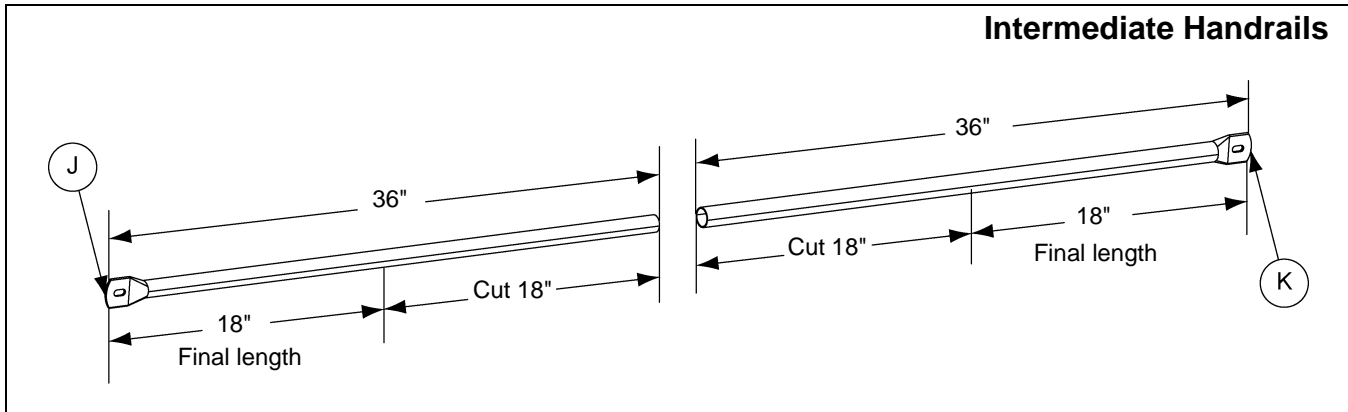

Figure 71
4. Assemble the intermediate handrails by sliding the small handrail into the larger handrail to create a telescoping handrail that can be adjusted to the correct length between the posts. Two (2) of the small intermediate handrails (J) and two (2) of the large intermediate handrails (K) will need to be cut to fit. The starting length of each rail is 36". Cut 18" off the end of each rail so the final length of each rail is 18". (See Figure 71.)